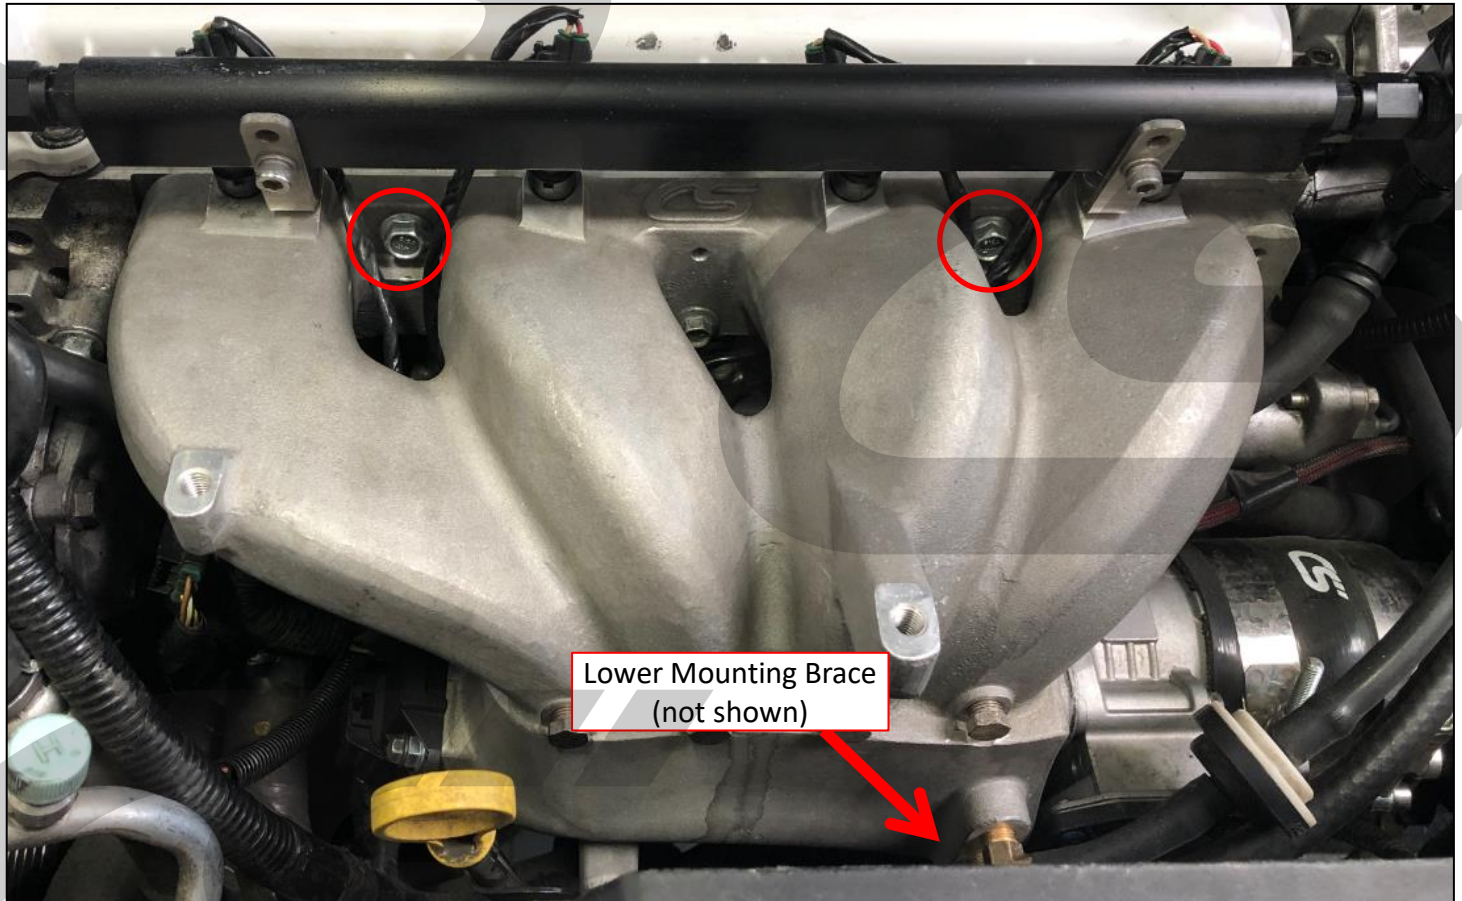

Figure 9a
- a) **Install CorkSport Intake Manifold with O-rings** using OE hardware except in locations marked with **red circles** in **Figure 9a** and the **lower mounting brace**. Use supplied **M8x1.25.35mm hardware** in these locations. **Torque to 13-16 ft-lbs.**